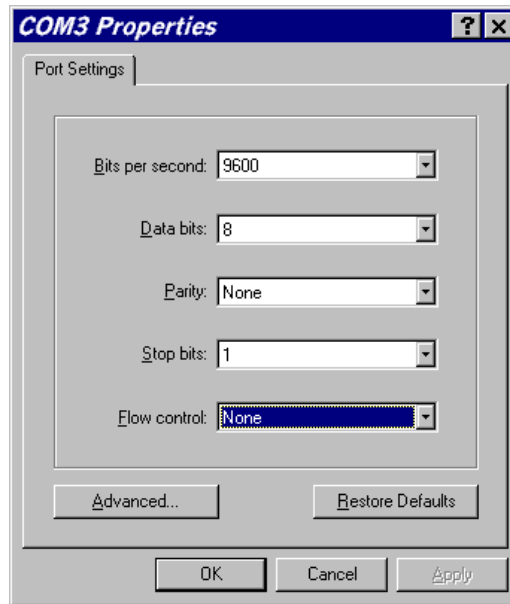

Figure 5-8: COM Properties Window
4. On the next dialog window, choose the following settings: Bits per Second – 9600; Data bits – 8; Parity – None; Stop bits – 1; Flow control – none. Then click “OK.” See **Figure 5-8**.